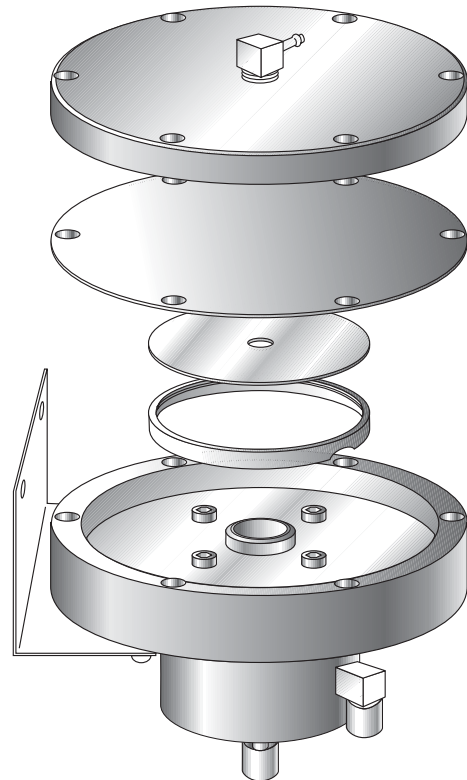

Fig. 8.1-a
- A. Remove the six allen head screws on top of the fuel management unit (FMU). (See Fig. 8.1-a.)